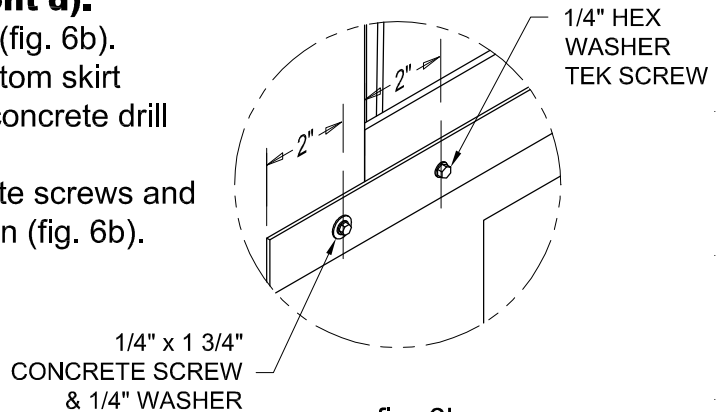

fig. 6b
- c. Repeat 'b' at either ends, 2" inside pit walls (fig. 6b).
- e. Secure top corners with 1/4" x 1 3/4" concrete screws and 1/4" washers. Use 5/16" hex drill bit to tighten (fig. 6b).